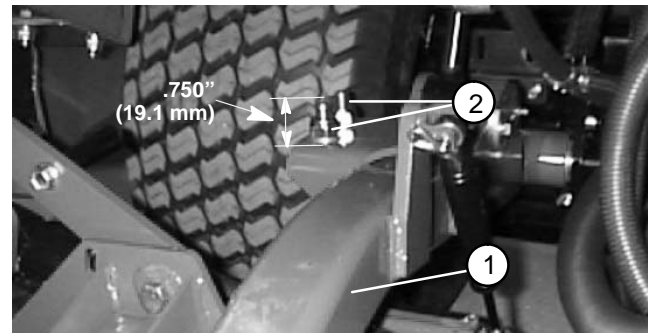

Figure 3
- A. Assemble height-of-cut chain u-bolt so that threaded portion of u-bolt extends .750" (19.1 mm) above mounting plate on lift arm (Fig. 3).